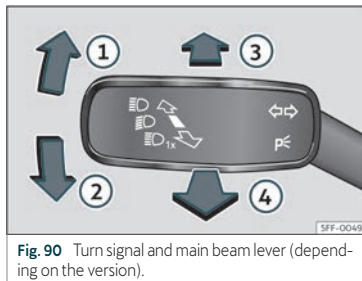

Fig. 90 Turn signal and main beam lever (depending on the version).
- From the base position, press the turn signal and main beam headlights lever forwards >>> **Fig. 90**  When the lamp  is displayed on the instrument panel display, the main beam assist is switched on.
- **OR:** while the main beam is on, pull the turn signal light and main beam headlights lever forwards >>> **Fig. 90** .